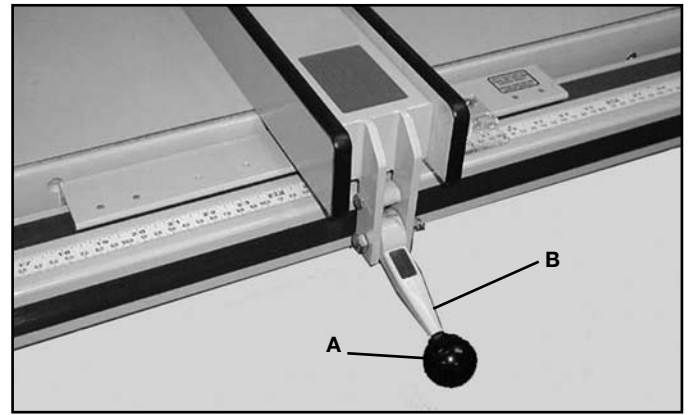

FIG. 23
1. Attach knob (A) Fig. 23 to locking handle (B). Knob is screwed onto threads of locking handle.